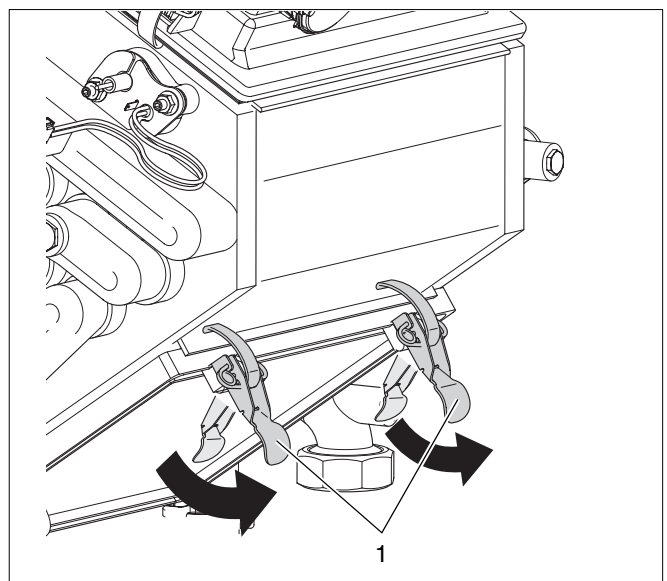

Fig. 129 Opening the latches of the condensate collector
- Open the four latches of the condensate collector (see fig. 129, pos. 1).